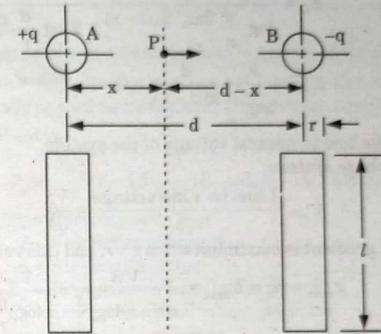

Fig. 2.19.1.
1. Let us consider the two-wire line shown in Fig. 2.19.1,